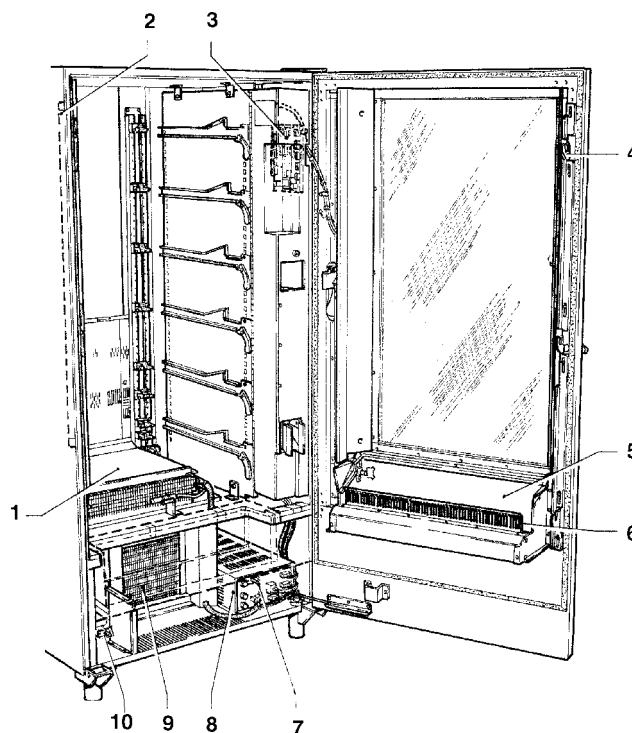

Fig. 13
- Open the door and switch the machine on, using the main switch (see Fig. 13), to start timing the 30 minutes from closing the door within which the safety temperature must be reached.
To energise the machine electrical system with the door open, it is sufficient to pull the door switch actuator outward (see Fig. 13).